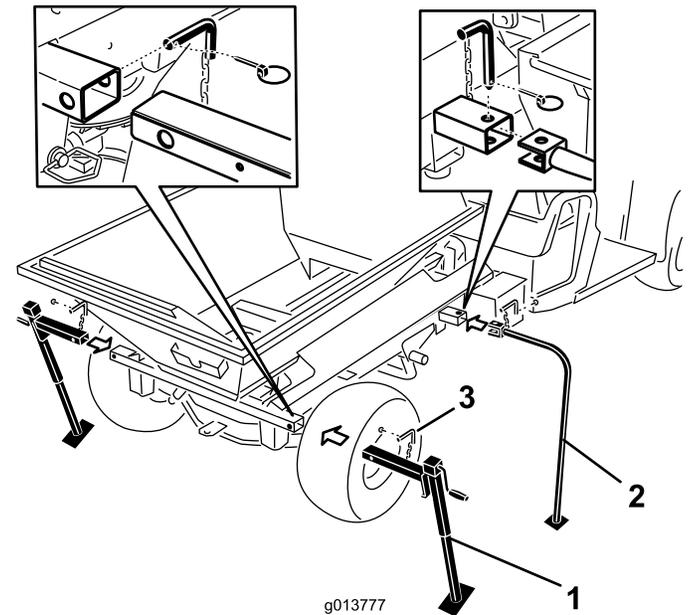

Figure 42
7. Insert the front storage legs and the rear jack stands into the ProPass tubes and secure them with the locking pins (Figure 42).